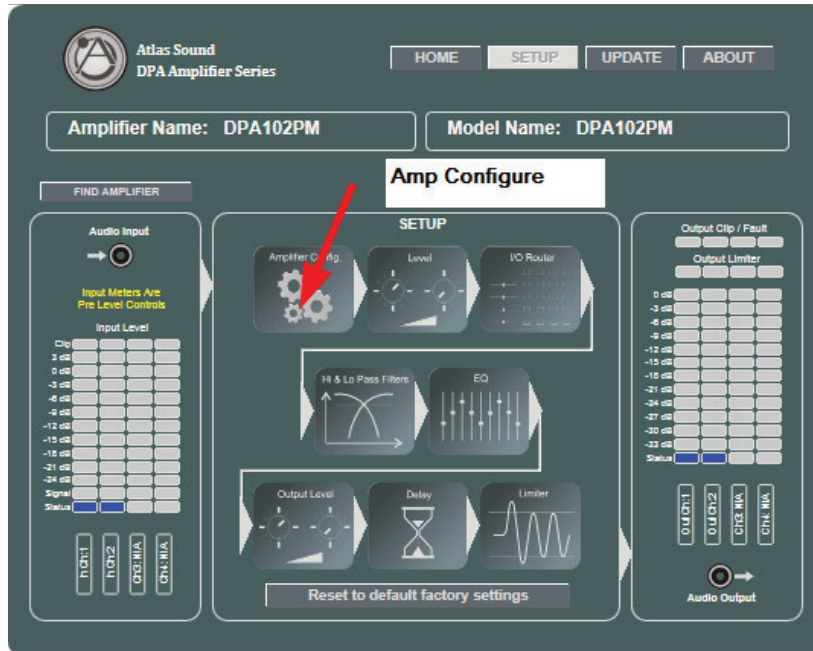

Figure 8
- Once the GUI is accessed, the Setup page allows for full configuration and control of the DPA amplifier. It is recommended to start initial adjustments by clicking the Amplifier Configuration button as shown in Figure 8.